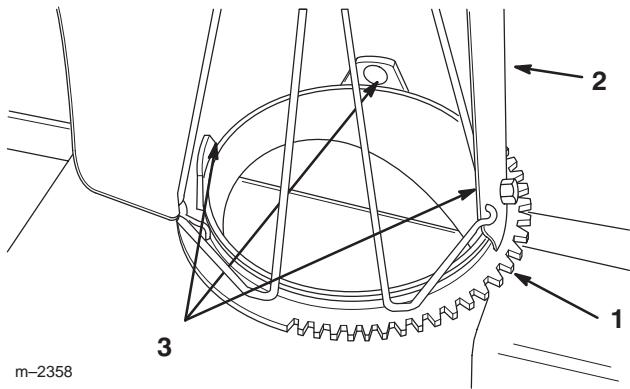

Figure 5
1. Rotate retain ring so teeth and mounting tabs are in correct position (Fig. 5).
2. Set discharge chute on retain ring (Fig. 5). Secure back of chute to center tab with 5/16-18 x 5/8" (16 mm) carriage bolt, 5/16" (8 mm) flat washer, and 5/13-18 locknut (Fig. 5); but do not tighten locknut.
3. Secure chute to other tabs with (2) 5/16-18 x 5/8" (16 mm) carriage bolts, 5/16" (8 mm) flat washers, and 5/13-18 locknuts (Fig. 5).